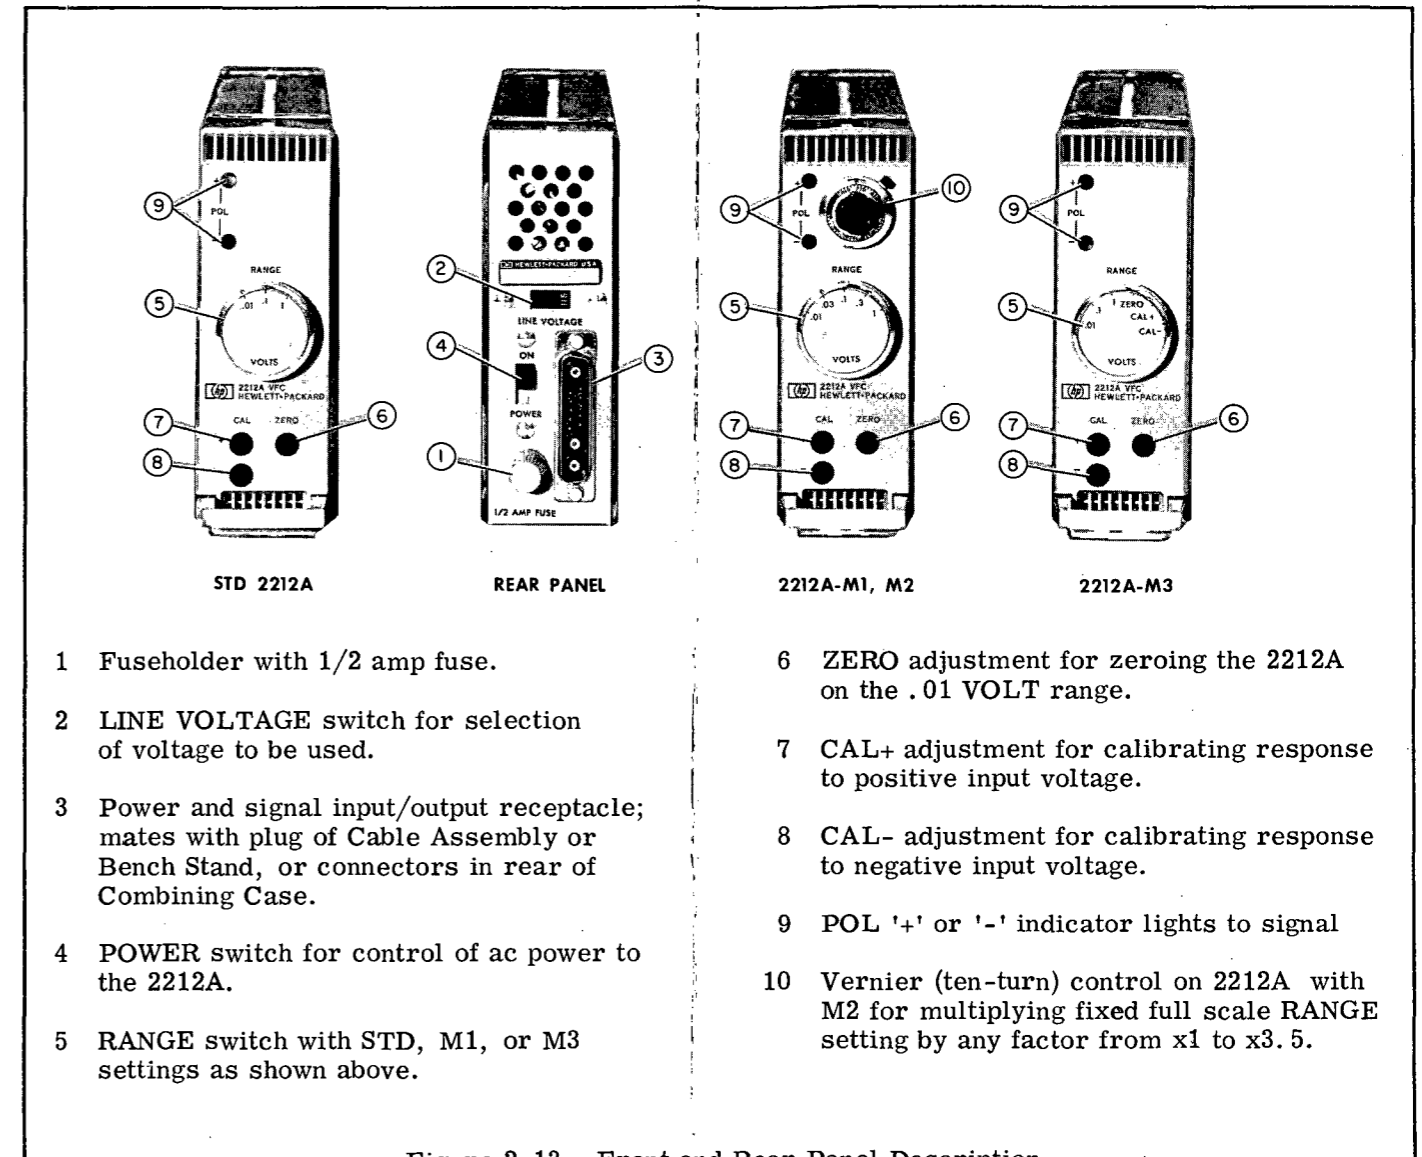

Figure 2-13. Front and Rear Panel Description
3. Set vernier of 2212A-M2 (10, Figure 2-13) fully counterclockwise and lock it there.
4. Set 2212A RANGE switch (5, Figure 2-13) to .01 VOLT (or to ZERO on 2212A-M3).
5. After specified warmup per paragraph 2-38, use screwdriver to set ZERO (6, Figure 2-13) for minimum count (less than 10) on the counter (set for 1 second gate and maximum sensitivity).
Switching of the POL indicators (9, Figure 2-13) can help to locate the best ZERO setting.
6. Set 2212A RANGE switch (5, Figure 2-13) to 1 VOLT, disconnect the shorting plug, and set the Transfer Standard for 1.000V output. (On 2212A-M3, set RANGE switch to CAL+.) The '+' POL indicator should be lighted.
7. With screwdriver, set CAL+ (7, Figure 2-13) for 100.000 kHz (kc) counter reading.
9. With screwdriver, set CAL- (8, Figure 2-13) for 100.000 kHz (kc) counter reading.
- 2-41. GENERAL. (See Figures 2-13 and 2-8).
1. Set LINE VOLTAGE switch (2, Figure 2-13) to show the line voltage (115 or 230v) from which the 2212A is to be operated.
7. Set the RANGE switch (5, Figure 2-13) according to the input voltage, as follows:
2-43. USING THE OPTIONAL VERNIER. The vernier (10, Figure 2-13) on the 2212A with Option M2 permits multiplication of the fixed full scale setting of the RANGE switch by any factor from 1 to 3.5. When the 2212A is equipped with both M1 and M2, any full-scale range from .01 to 3.5 volts may be selected. The 150% overrange capability permits the 2212A with M2 to handle input voltage to ± 5.25 volts.